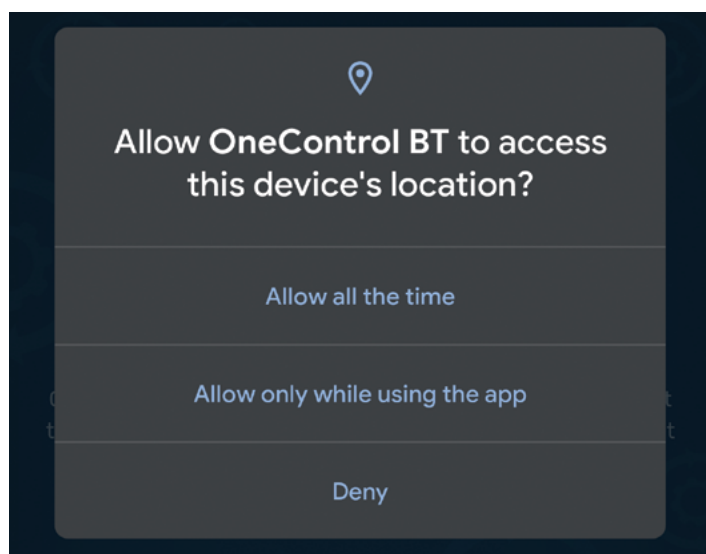

Fig.6
5. Allow OneControl BT access to the device's location (Fig.6). Make a selection to move forward with setup. Tapping the Deny button will stop the process.